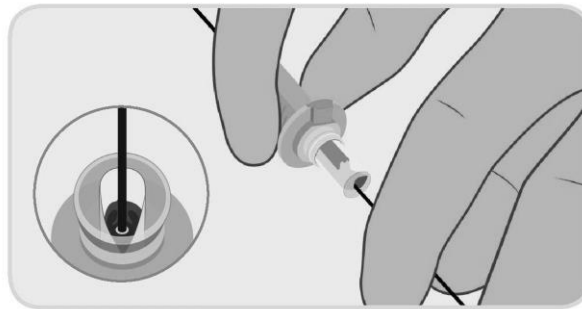

Figure 7. Loading guidewire into device cannula.
- Use non-heparinised saline to lubricate the guidewire during insertion. Insert the guidewire into the implant within the loading cannula, Figure 7 continue to insert the guidewire until it emerges from the rear of the PerQseal+ closure device handle. Hold the PerQseal Introducer-sheath at a low angle relative to the longitudinal axis of the artery (e.g. 20°) and keep the Introducer-sheath as straight as practical, to avoid kinking.
Note 2: Only grip the back portion of the Loading cannula during insertion as indicated in Figure 7.